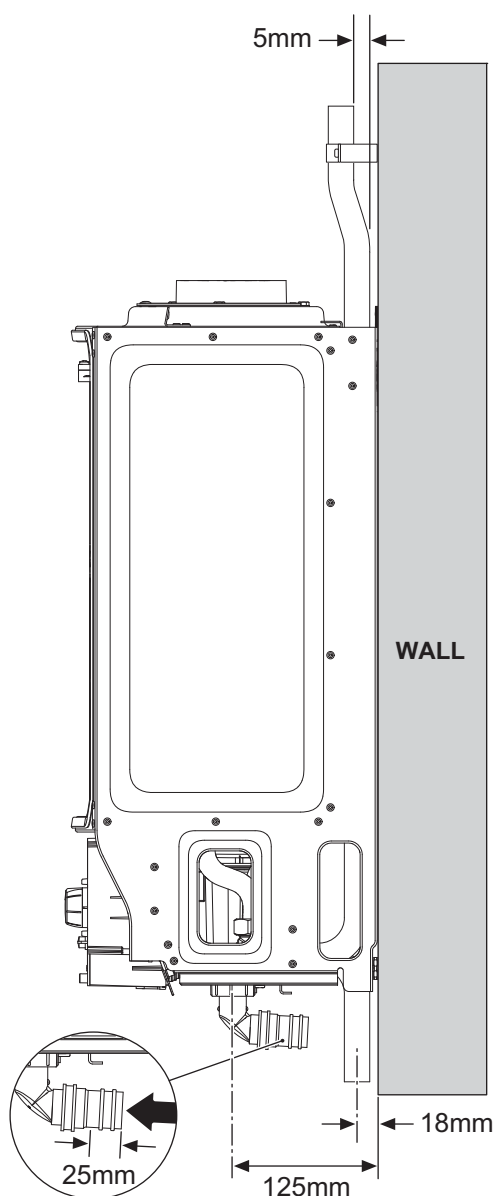

Fig. 31 Pipe work dimensions
Figure 31 gives the pipe work dimensions with respect to the mounting surface.
1. Fit washer (1) inside the plastic nut and attach firmly to the connection on the syphon.
2. Connect the condensate disposal pipe work to the elbow (2), refer to figure 31 and insert the condensate pipe 25mm into the elbow.